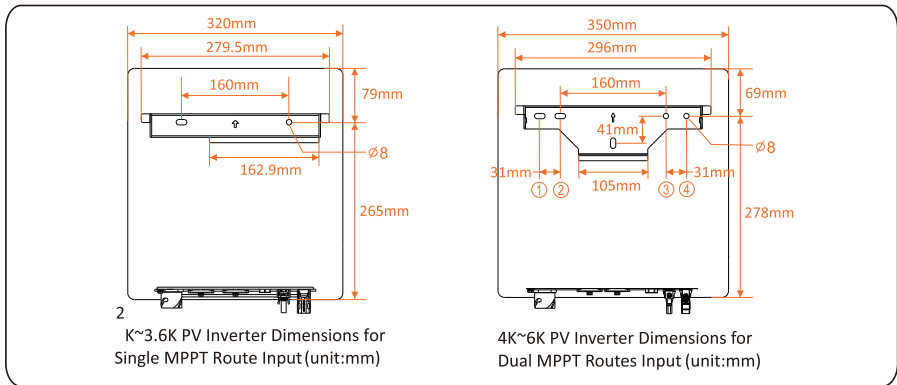

Figure 4.10 Determine the positions for drilling holes (unit:mm)
Step 2 Determine the positions for drilling holes (as shown in Figure 4.10) using the rear panel.